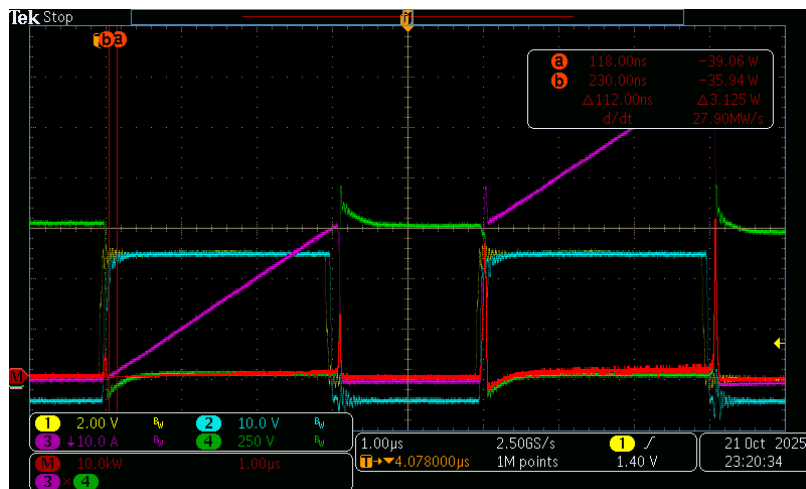

Figure 6: Oscilloscope waveform obtained during an 800V, 30A DPT of CC-33-80-354L using this evaluation board
6. To carry out the test, initially, the DC link capacitor bank is charged to the desired test voltage via the power supply. The actual voltage must be slightly higher than the test voltage since the energy required to magnetize the inductive load must also be stored in the capacitor bank, resulting in some voltage drop during the first pulse. The initial voltage drop can be calculated using $I = C \times \frac{dV}{dt}$ where I is half the current through the device under test (DUT) during the test, C is the DC bus capacitance of 6.04 μ F, dV is the DC bus voltage drop, and dt is the duration of the pulse. For the double pulse test, the necessary pulse sequence is calculated beforehand and is determine by the signal generator. The test consists of three phases, which can be seen in **Figure 6**. The phases are as follows:
The peak overshoot in the current observed in **Figure 6** (top) is caused by the reverse recovery of the freewheeling diode. Here, the stored charge of the diode adds an additional current component which must be taken by the switch. We note that both turn-on and turn-off waveforms of the device under test can be measured over the complete test period.
Figure 6 shows an oscilloscope screenshot from a double pulse test that we performed on one of our devices using this evaluation board. The green waveform is the voltage across the DUT, the purple is the current through the DUT, the yellow is the pulse from the signal generator, the blue is the DUT gate voltage, and the red is the switching loss. This test was performed with 800V across the DUT and 30A through the DUT. An 80 μ H external inductor was used along with 0 Ω of gate resistance.